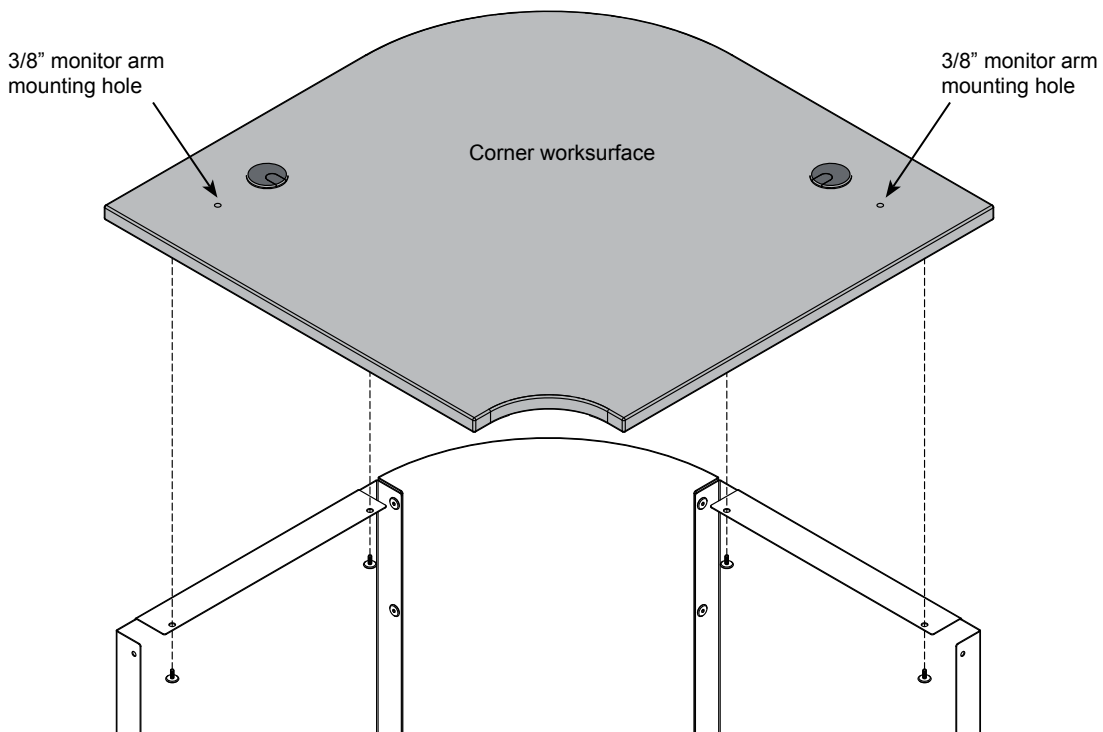

Figure 1B
2. Attach each wall filler panel to the corner panel with (4) 1/4-20 x 15mm JC bolts.
3. Align and attach the corner worksurface to the wall filler panels with (4) 1/4-20 x 15mm JC bolts. **Figure 1B**.